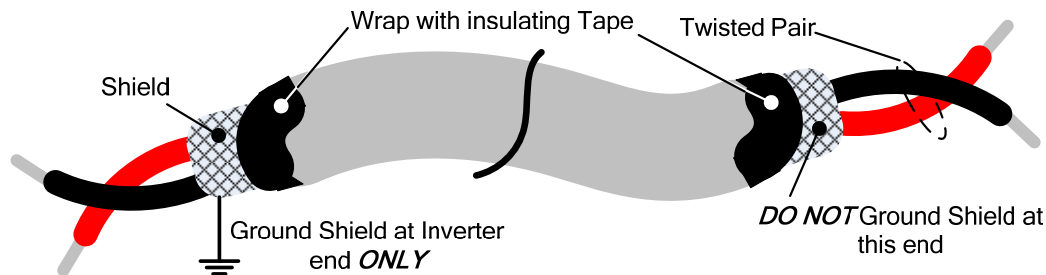

Figure 3.3.6.1 Shielded Twisted-Pair
- (1) Separate the wiring for control circuit terminals from main circuit wiring for terminals (R/L1, S/L2, T/L3, U/T1, V/T2, and W/T3).
- (2) Separate the wiring for control circuit terminals (R1A, R1B, R1C / R2A, R2C /R3A, R3C) from wiring for terminals S1~S6, A01, A02, GND, +10V-, AI1, AI2, and GND wiring.
- (3) Use shielded twisted-pair cables (#24 - #14 AWG / 0.5 -2 mm²) shown in Fig. 3.3.6.1 for control circuits to minimize noise problems. The maximum wiring distance should not exceed 50m (165 ft).